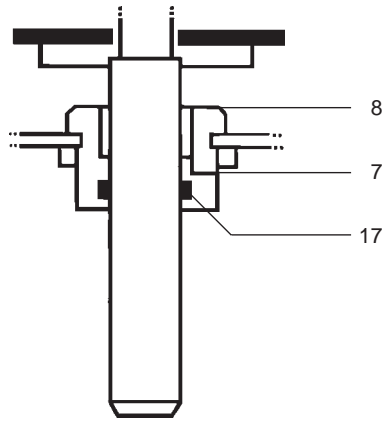

Fig. 11 PN 5500, PN 5600, PN 6500 and PN 6600 series
6.3.1 Stem seal kit - How to fit (See Fig. 11)